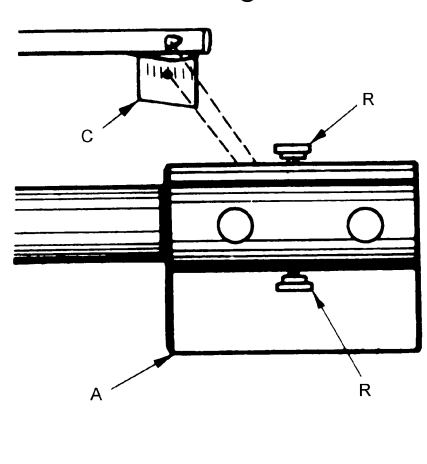

Figure 30
If the laser beam, reflected back from the mirror (A), doesn't strike the graduated toe scale, loosen both knobs (R) on the Right Laser Toe Gauge (See Fig. 30). Rotate the mirror housing (A) until the laser beam image strikes the graduated toe scale. Re-tighten both knobs.